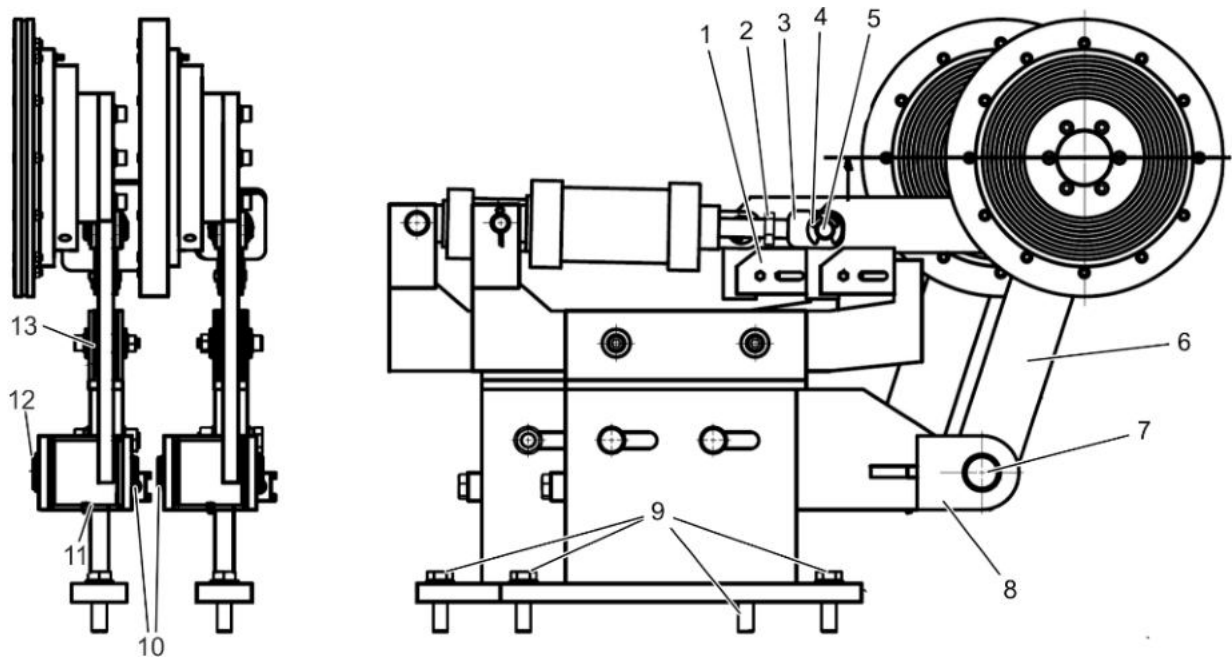

Fig. 94: Welding head
4. Unscrew mounting screws (Fig. 94/9), lift off the welding head with lifting equipment and place it safely.
5. After maintenance or repair, place welding head, align and re-tighten screws (Fig. 94/9).
6. Remove bolt locking clip (Fig. 94/4).
7. Pull out headbolt (Fig. 94/5).
8. Remove circlip (Fig. 94/13).
9. Pull out bolt (Fig. 94/7) and lift off swivel arm (Fig. 94/6) together with electrode set using lifting gear.
1. Disassemble swivel arm (Fig. 94/6) as described in chapter 8.3 "Dismantling swivel arm" on page 145.
7. Attach swivel arm (Fig. 94/6) to the welding head.